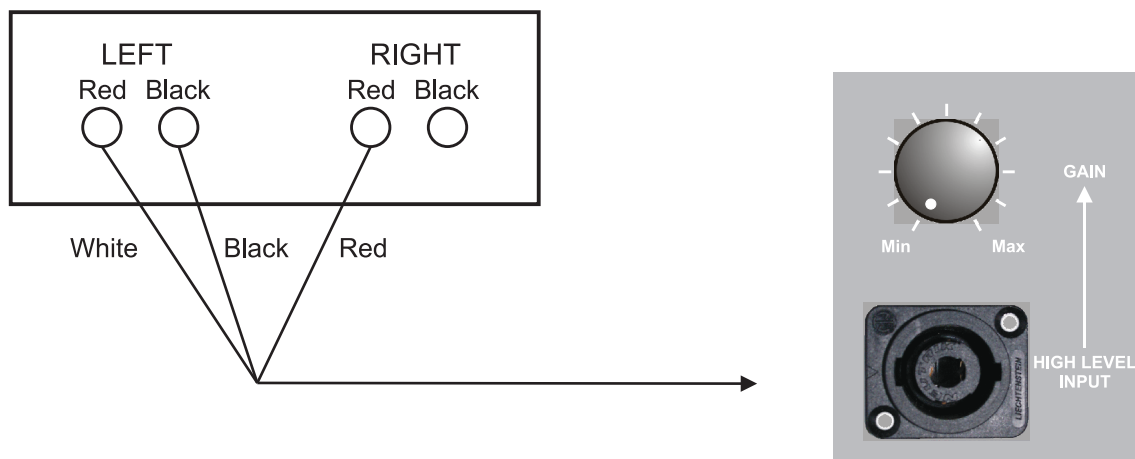
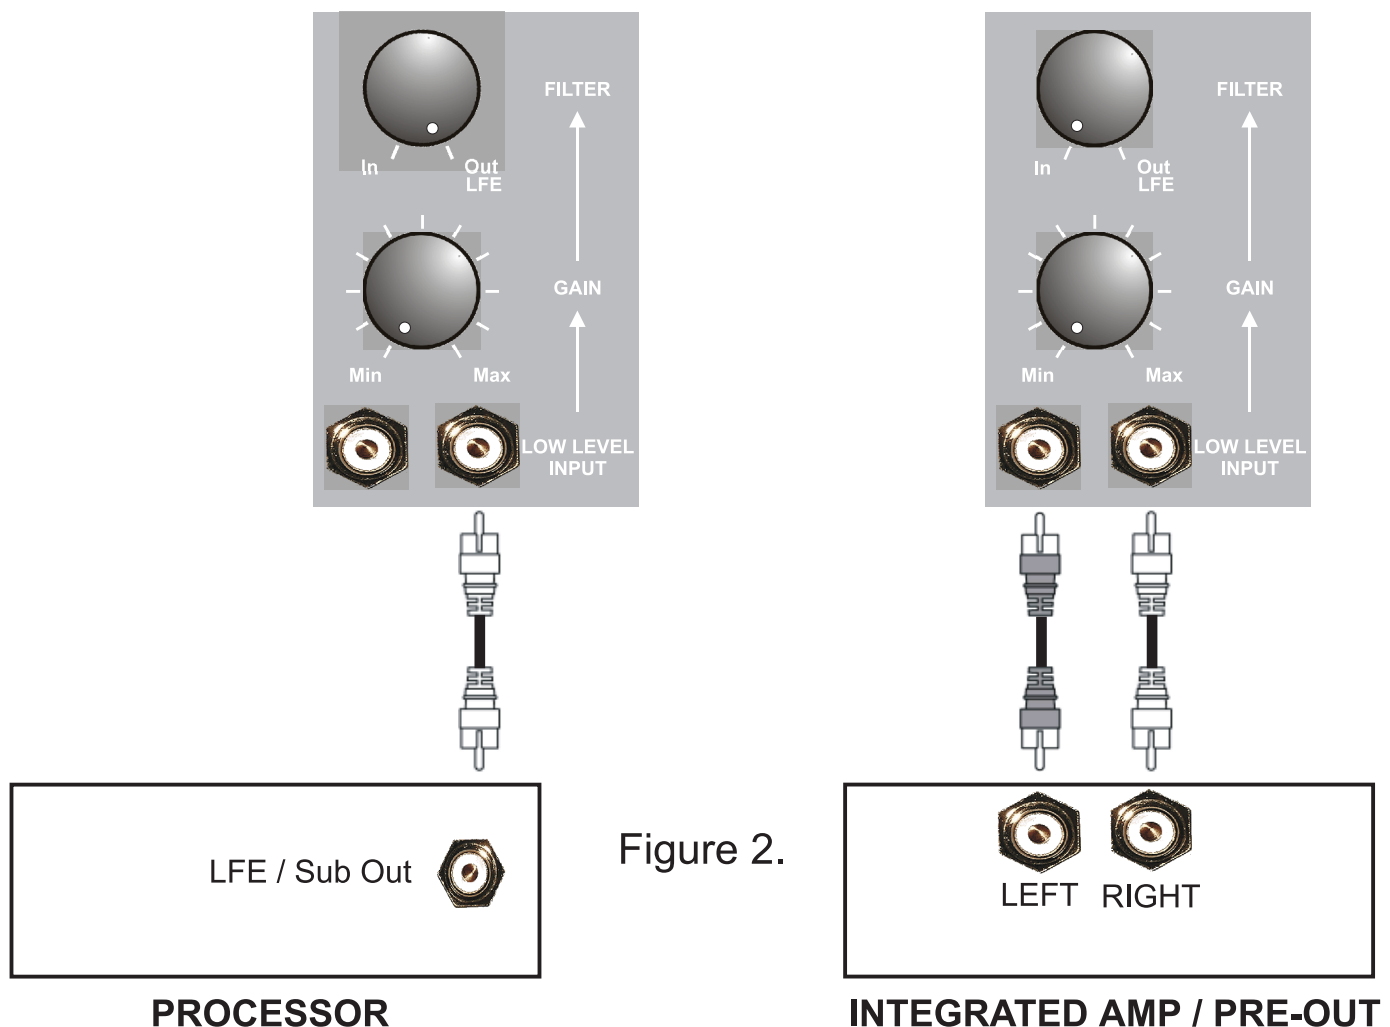

Figure 1.
Figure 2.
Figure 1. Shows a diagram on how to connect the high level input. Using the optional Neutik lead, connect the Double Gem to the output of your amplifier via your existing speaker plug or to a spare set of speaker terminals if available. In effect you are Bi-Wiring your Double Gem to your power amp. Please note that the Neutrik cable has only three leads and is arranged this way to preserve the star earthing of your amplifier (assuming it has a star earth arrangement).
Figure 2. Shows a diagram on how to connect the low level input. Using the supplied RCA to RCA interconnect, plug one end into the Double Gem low level input and the other end into the dedicated sub output on your amplifier or processor. If a sub out is not available then you can use a spare set of pre-amp outputs.
- Connect your Double Gem as shown in Figure 1 or Figure 2. Then attach your subwoofer to the power supply using the power cable supplied, at this point have the power switch in the off position.